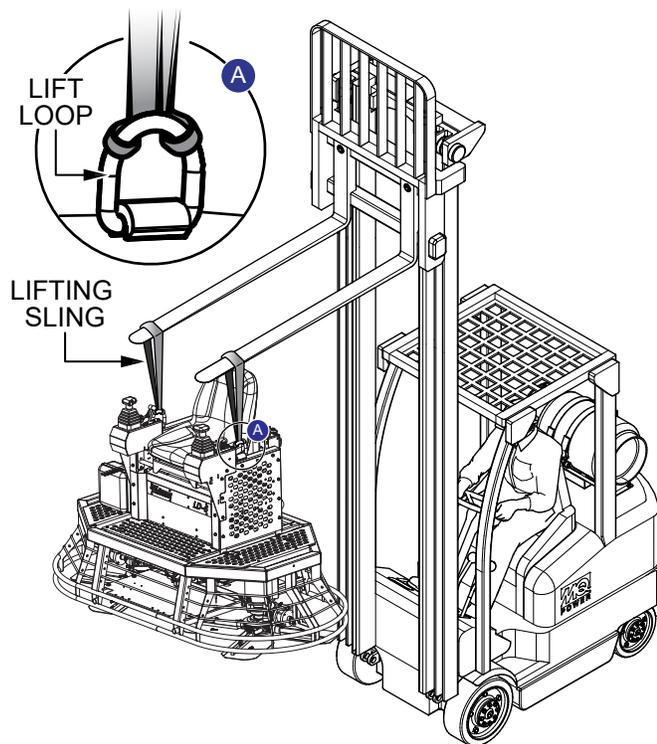

Figure 2. Lifting The Trowel
1. Secure the **lifting slings** (Figure 2) to the **lift loops** located to the left and right of the operator's seat.